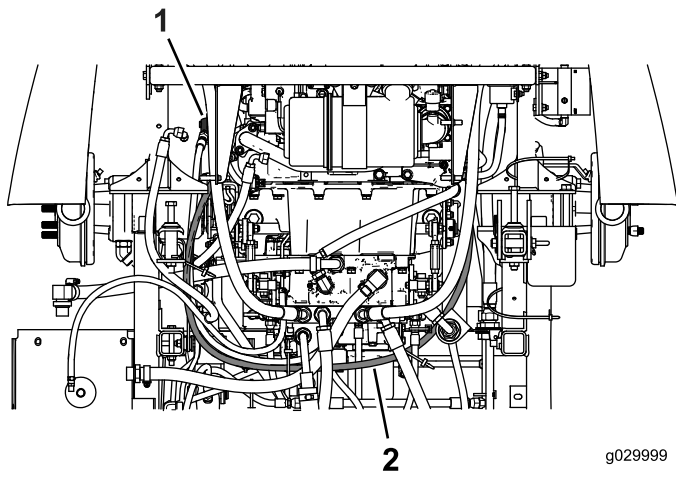

Figure 17
4. Route the long hydraulic hose as shown in Figure 17.